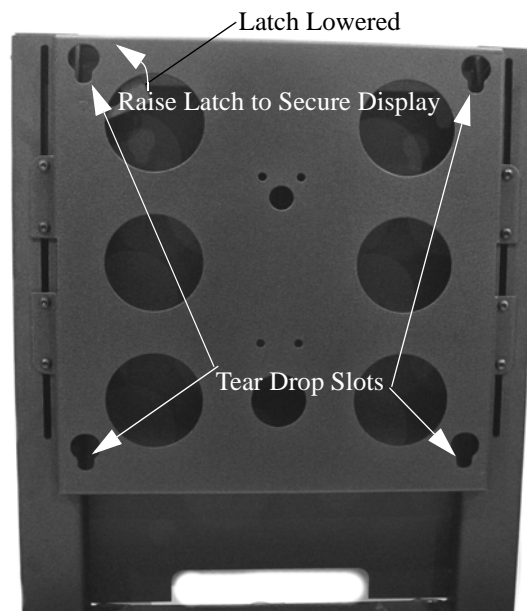

Figure 12. Latch and Tear Drop Slots
2. Make sure the latch on the mount is lowered to the side before attempting to place the display on the mount (see Figure 12).